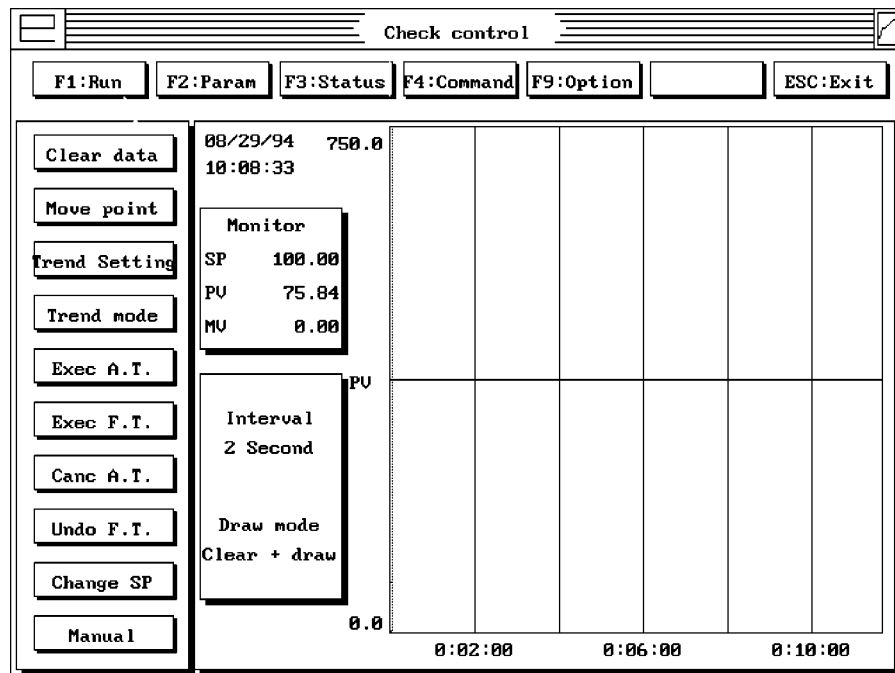

Figure 19
- In the **Check control** menu double-click on **F4:Command** (Figure 19).